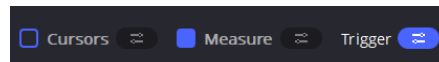

Figure 11. Enabling the Measurement Feature in Scopy
- Enable the Measure feature within Scopy by clicking the appropriate box. See Figure 11 for reference.